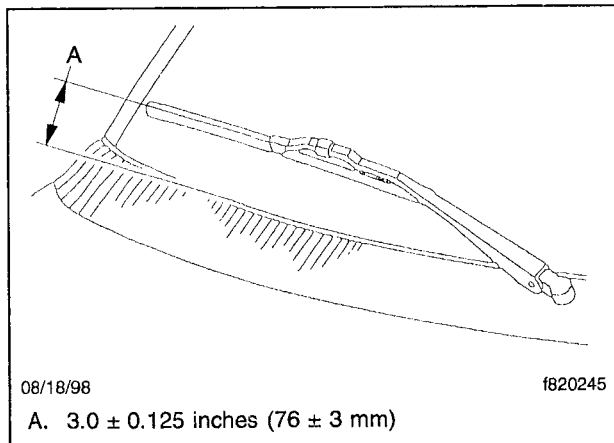

Fig. 8, Passenger-Side Windshield Blade Park Dimension
- 15.2 Verify that the distance between the center of the passenger-side windshield wiper blade and the cowl top vent panel is within 3.0 ± 0.125 inches (76 ± 3 mm). See **Fig. 8**.